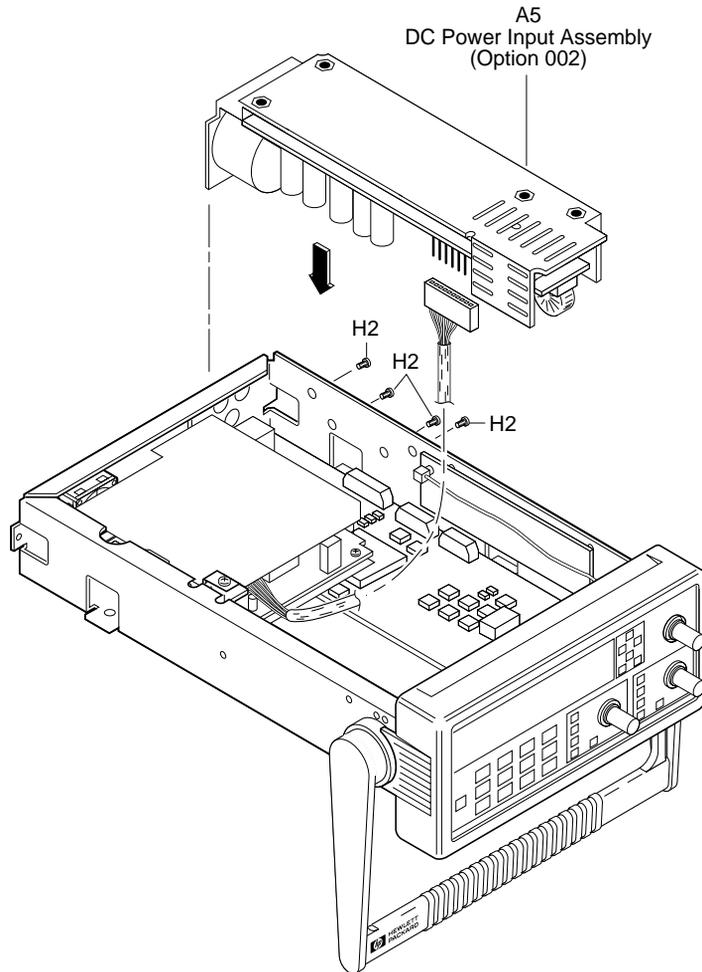

Figure 4-1C. DC Power Input Assembly Retrofitting
- a. First, connect the other ac power supply cable to the connector on A5 printed-circuit board as shown in Figure 4-1C.**
- c. **Using the four TORX 10 screws (H2), secure A5 DC Power Input Assembly to the side of the chassis (MP10) as shown in Figure 4-1C.**